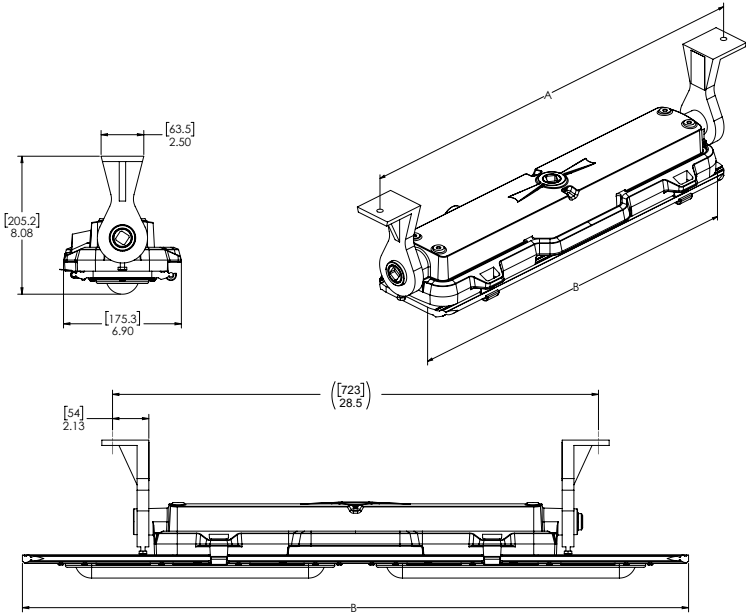

Figure 2. Ceiling-Wall Mount Installation
- 2. Mark and drill holes for fastening end brackets. Use two (2) 1/4" diameter fasteners (customer supplied) at center to center measurements (see Figure 2). It is recommended that stainless steel hardware be used in locations with corrosion concerns.
- 3. Luminaire is now ready for mounting. It is strongly suggested to use two (2) qualified tradespeople to proceed with the final mounting of the luminaire. This is recommended to avoid any personal injury or damage to the luminaire.